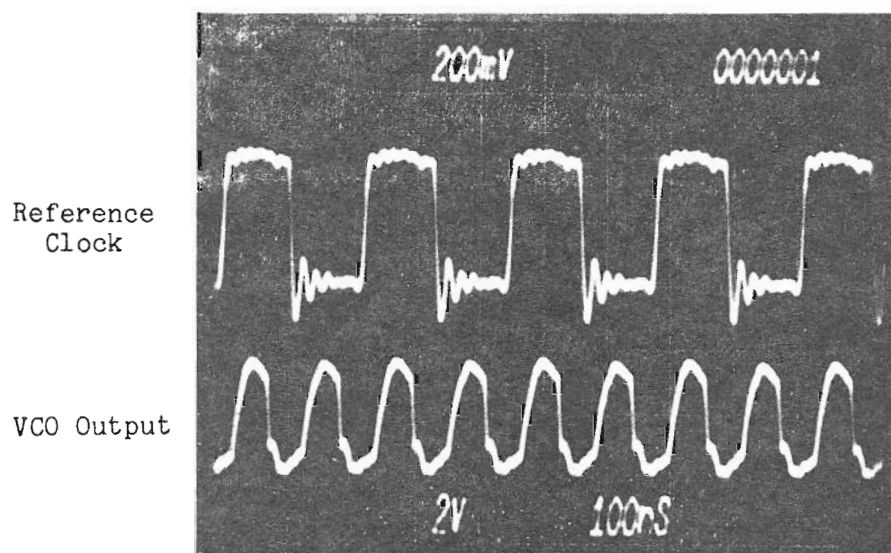
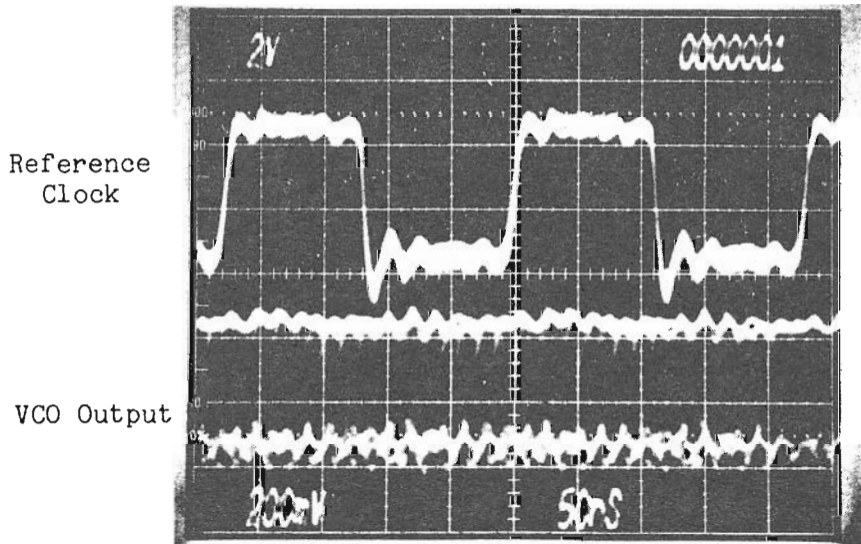

FIGURE 2 PLL CORRECTLY ADJUSTED FOR WINCHESTER DISK DRIVE
FIGURE 4 PLL NOT "LOCKED"
- c. Continue adjusting R7 clockwise until all the VCO output pulses are centered with respect to the phase detector reference clock pulses (see figure 2). When this condition occurs, the PLL is "locked". When the output pulses are centered, the VCO output pulse period will be approximately 0.115 usec (figure 2).
12. Verify that the adjustment is correct by connecting a jumper from TP6 to +0V (GND) and then removing the wire. This momentarily selects the diskette drive frequency. The PLL should "lock back up" on the Winchester disk drive frequency (figure 2) when the jumper is removed as indicated by the VCO output automatically returning to a stable, not free-running state. If the PLL does not "lock up" (figure 4), continue adjusting R7 in the clockwise direction until the conditions in step 11 are met and the PLL "locks up".